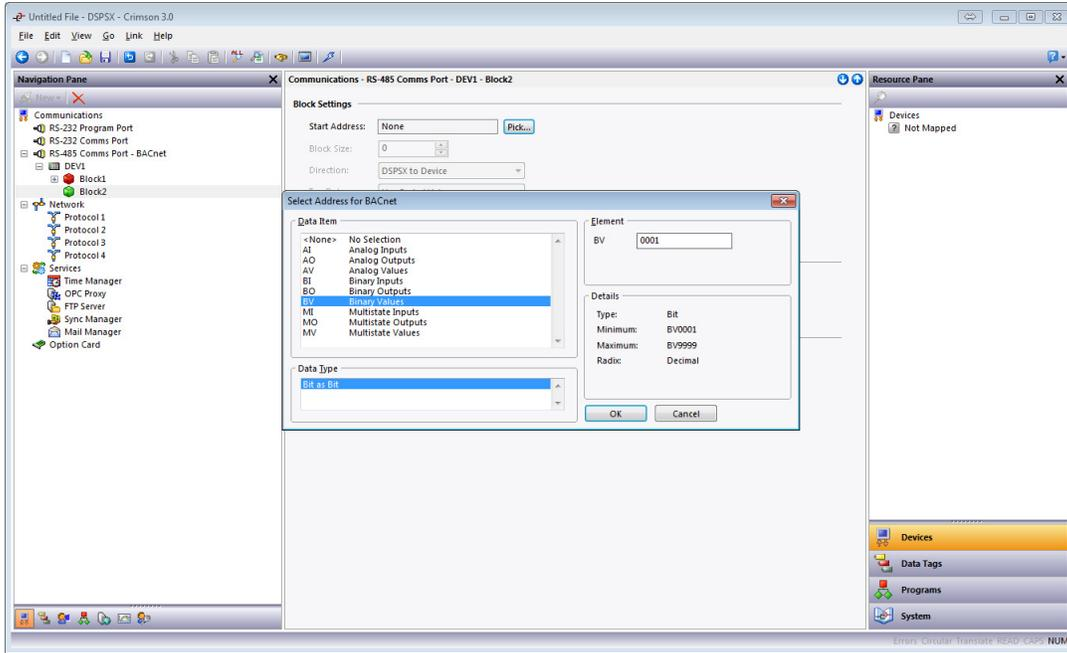

Figure 8.
19. Referring to Figure 8, go to the Navigation Pane and click on the desired block; *Block 2* in this example